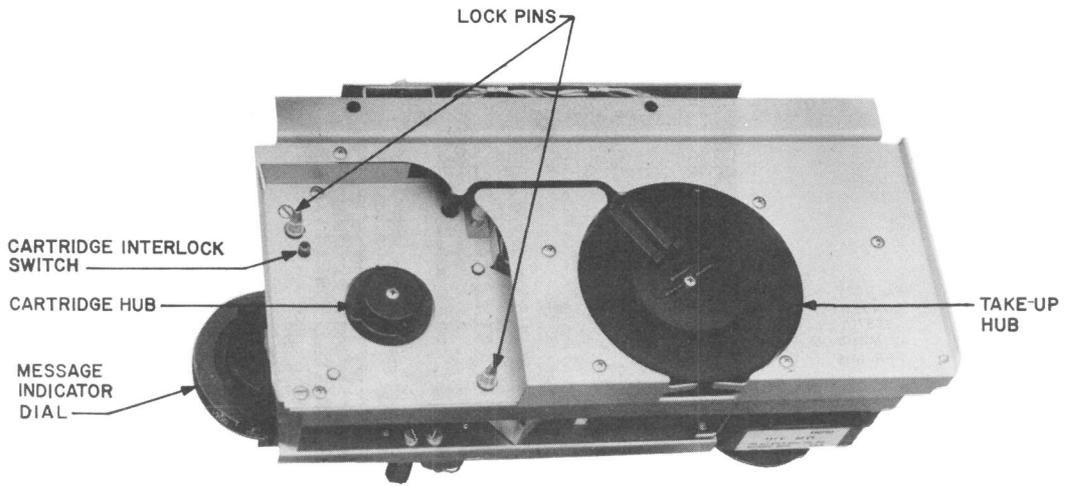

Fig. 6—KS-19245, List 3 Recorder (Reel Side)
- (b) **The KS-19245, List 3 Recorder** (Fig. 6 and 7) is the incoming message recording mechanism. It provides a maximum recording capacity of 2 hours on 1/4-inch wide plastic base magnetic recording tape. This tape is contained in the KS-19245, List 6 cartridge which may be conveniently changed by the customer. Facilities are provided for limiting the message recording time